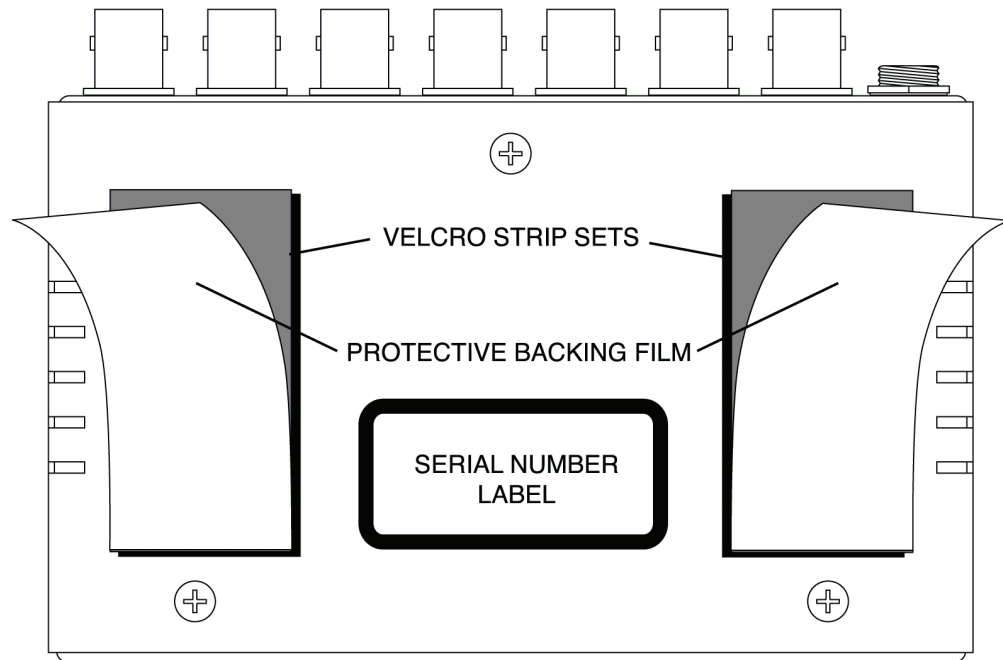

Figure 2. Velcro Installation Option
2. Adhere the strip sets to the bottom side of the chassis as shown in Figure 2.